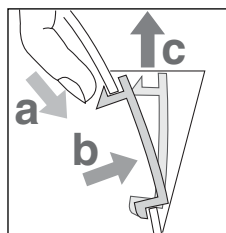
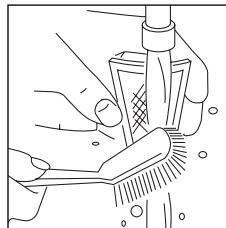

Fig. 1
fig. 2
- Remove the filter by pushing as shown in fig. 1 and wash with water (fig. 2). Refer to page 7. "Removing the scale filter"
- Empty the kettle and remove the filter by pushing as shown in fig. 1.
- Rinse under a tap whilst brushing with a soft brush (fig. 2).